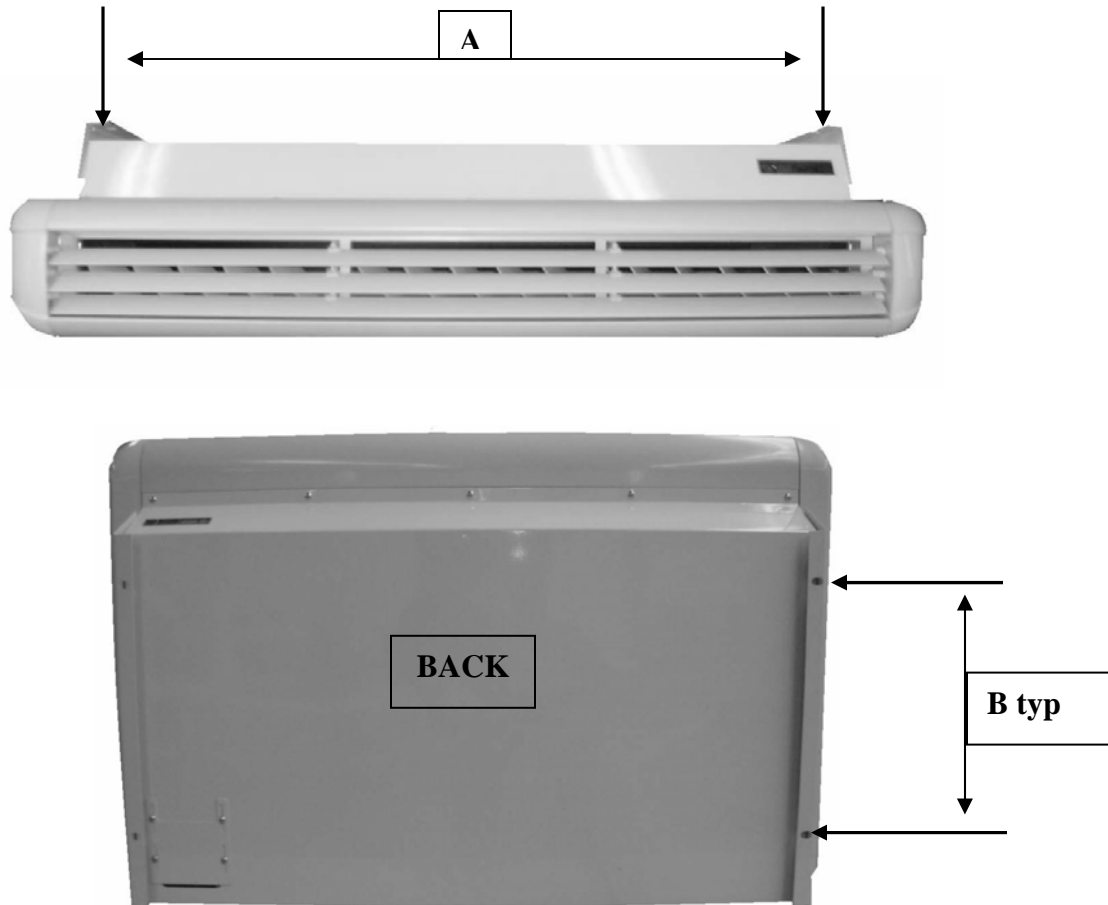

Figure 2
horizontal or vertical configuration. Fan coil can be mounted on a wall or ceiling. See figure 2 for fan coil and mounting bracket dimensions.
4. Prepare mounting bolts for mounting unit under ceiling or on a wall at the distance provided in figure 2.